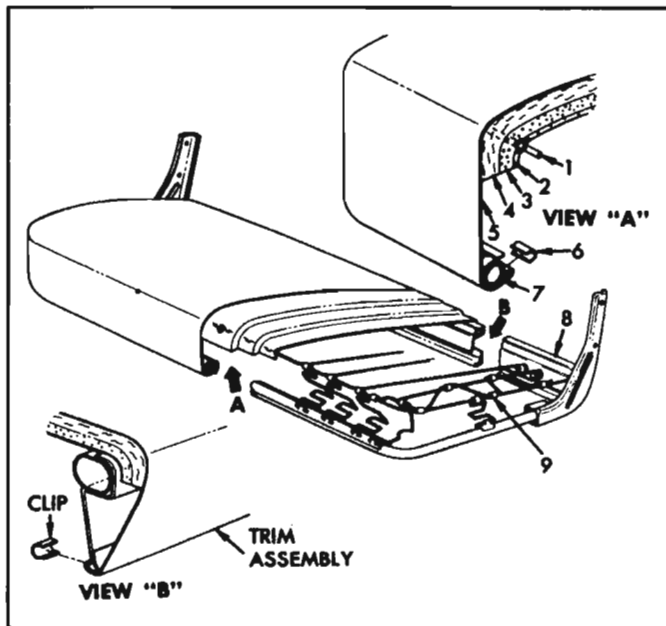
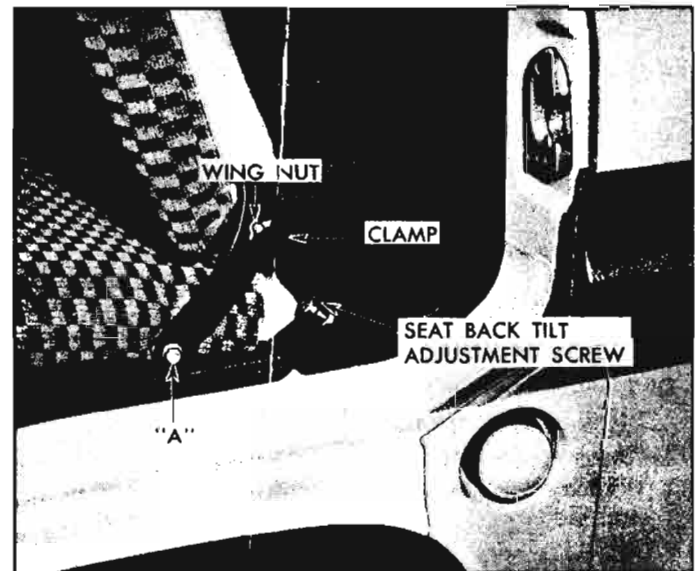
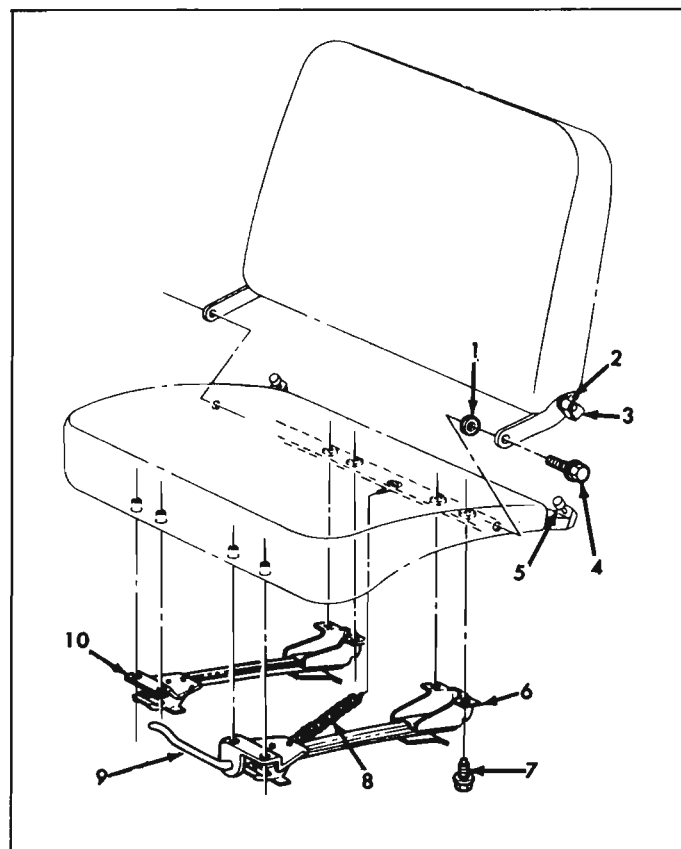
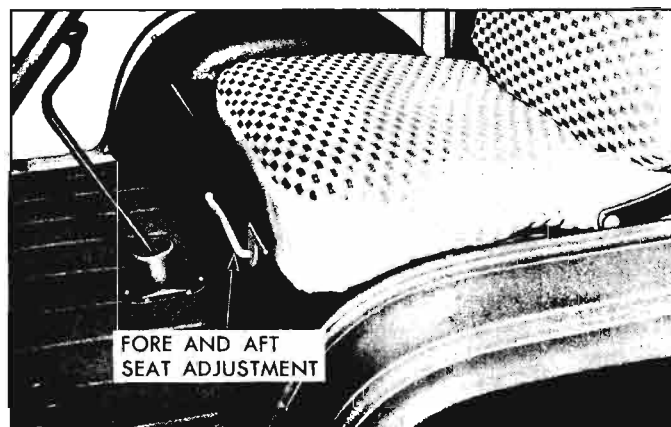

Fig. 10-97a—Seat Cushion Assembly
Fig. 10-98a—Seat Back Mounting and Adjustment
Fig. 10-99a—Front Seat Assembly (Single Type Shown)
Fig. 10-101a—Seat Adjuster
The seat used in the Corvair 95 series is of the straight back type. In some models a single type driver's seat is used. All seats incorporate new design spring elements and polyurethane foam pads as shown in Figure 10-97a. Seat backs use coil springs and cotton pads. Front seat backs are adjustable and incorporate a retention clamp (fig. 10-99a).
1. Remove one special cap screw ("A", fig. 10-98a) and washer which attach each side of seat back frame to seat frame. Lift seat back from seat.
2. Position seat back to seat place washer (fig. 10-99a) in sequence between seat and each seat back frame end; then insert special shoulder-type cap screw (fig. 10-98a) through end frame, washers and thread into tapped hole in seat frame; tighten cap screws firmly.
3. Seat adjuster can be removed from seat after disengaging end of seat return spring. Remove four screws and washers attaching adjusters to seat (fig. 10-99a).
Front seats are provided with two adjustments (fig. 10-101a). A lever at the front center for positioning the seat "Fore" or "Aft". Pull up on lever to disengage seat position lock. An adjusting screw is provided at each side of the seat back for tilting seat back to the position desired (fig. 10-98a). After making tilt adjustment, lock adjusting screws in place by tightening screw lock nut.